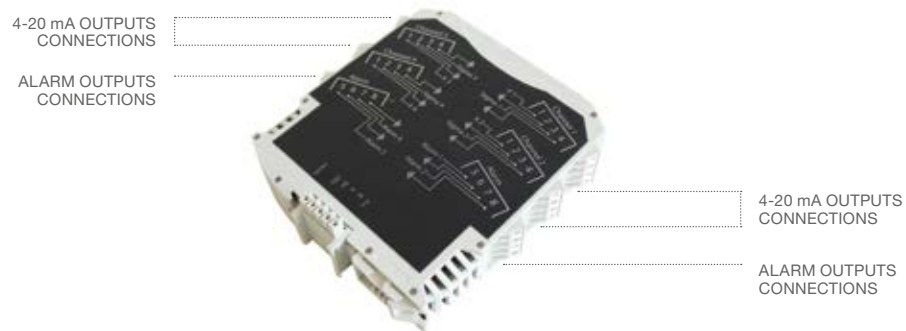
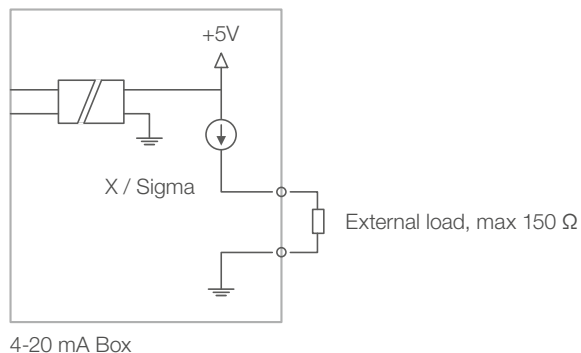
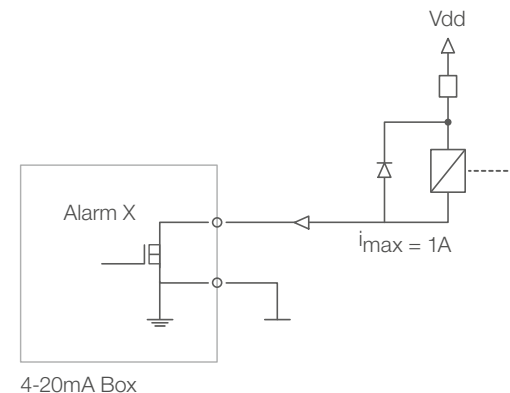

Figure 86: Port Configuration of the 4-20 mA Box.
Figure 87: Schematic diagram of an analog output.
Figure 88: schematic diagram to connect an external relay to the Alarm output.
2. Connect the outputs of the 4-20mA Output Box to the passive inputs of the process control system (process control system is a current sink) (Figure 86, Figure 87, Figure 88).